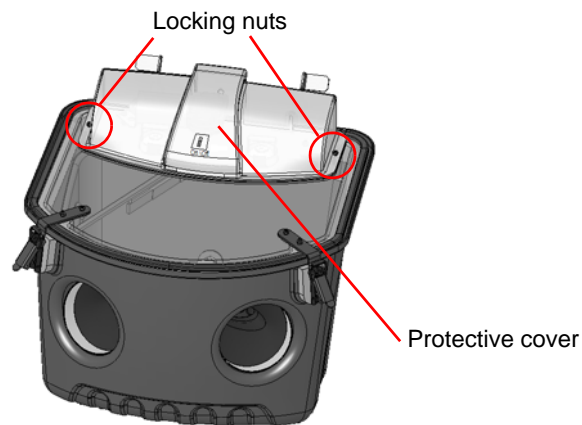

Figure 6-1: Removing the protective cover
2. Using a Phillips screwdriver, open the two locking nuts (see figure 6-1) and remove the protective cover.